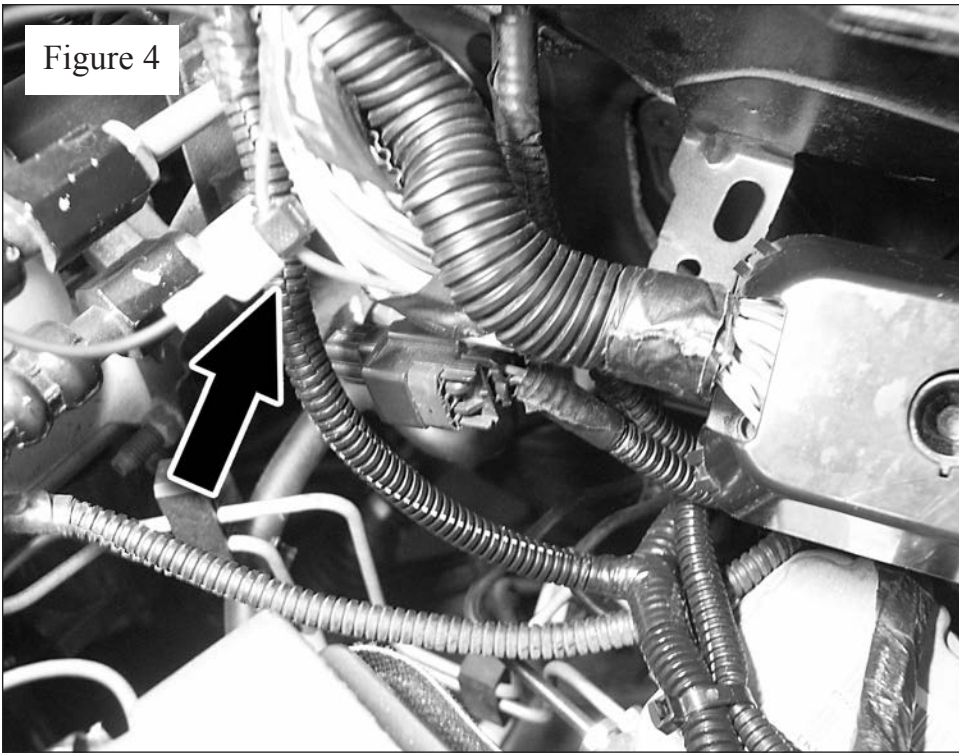

Figure 4
**11.** Locate the WHITE wire with ORANGE stripe in the wire loom entering the large black electrical connector on the driver side. This is the same connector removed in Step 4. Install a T-tap on this WHITE wire with ORANGE stripe. Plug the Banks Brake ORANGE wire into this T-Tap. See **Figure 4**.
**13.** Use the nylon ties to tie the two (2) BROWN Banks Brake wires to the BLACK and GREEN wire pair convolute (the BROWN wires are not applicable
**17.** Find the WHITE wire with ORANGE stripe in the wire loom entering the large black electrical connector on the driver side. This is the same connector removed in **Step 4**. Open the convolute and remove the electrical wire tape around the wire loom. Install a T-tap on the WHITE wire with ORANGE stripe. Plug the Banks Brake ORANGE wire into it. See **Figure 4**.